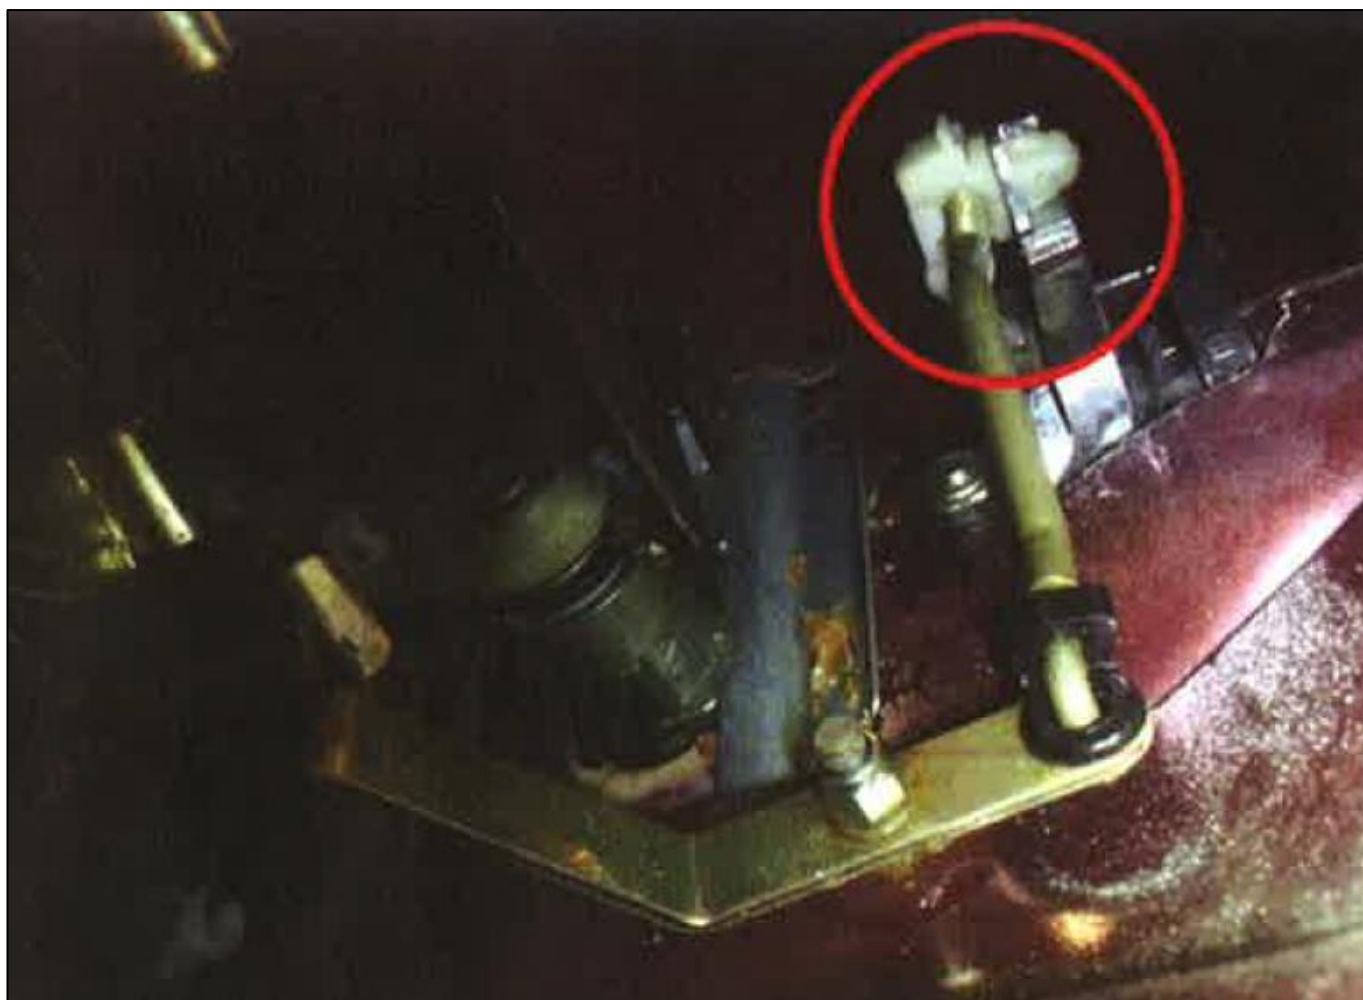

Figure 2
9. Install the drop bar to the white nylon clip on the outer door handle. (Refer to Figure 2.)